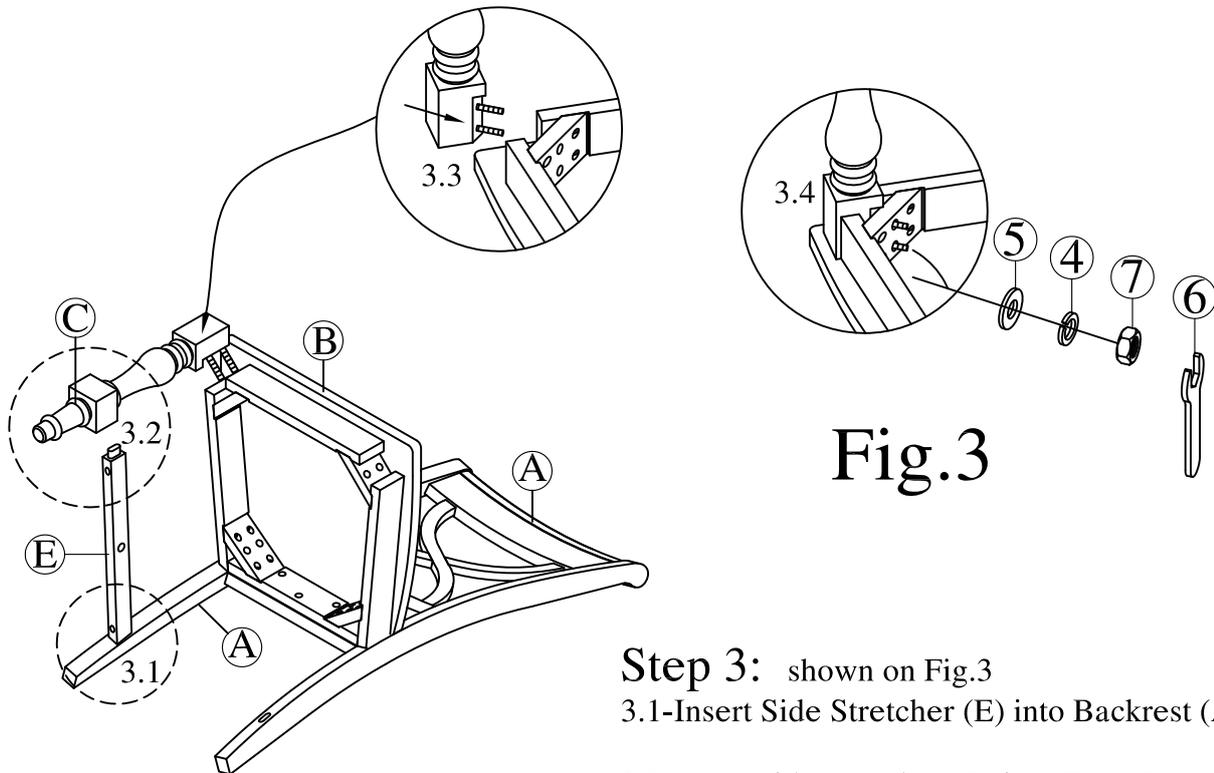

Fig.3
**Step 3:** shown on Fig.3
3.1-Insert Side Stretcher (E) into Backrest (A).